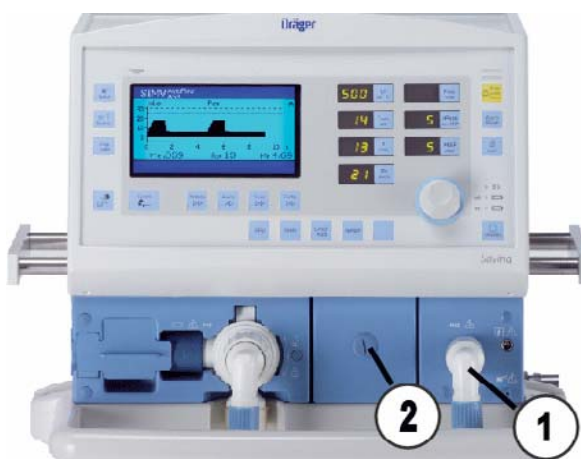

Fig. 36 Front view of unit, inspiratory socket and screw
2. Use the screw (Fig. 36/2) to secure the O2 sensor cover (Fig. 36/1).